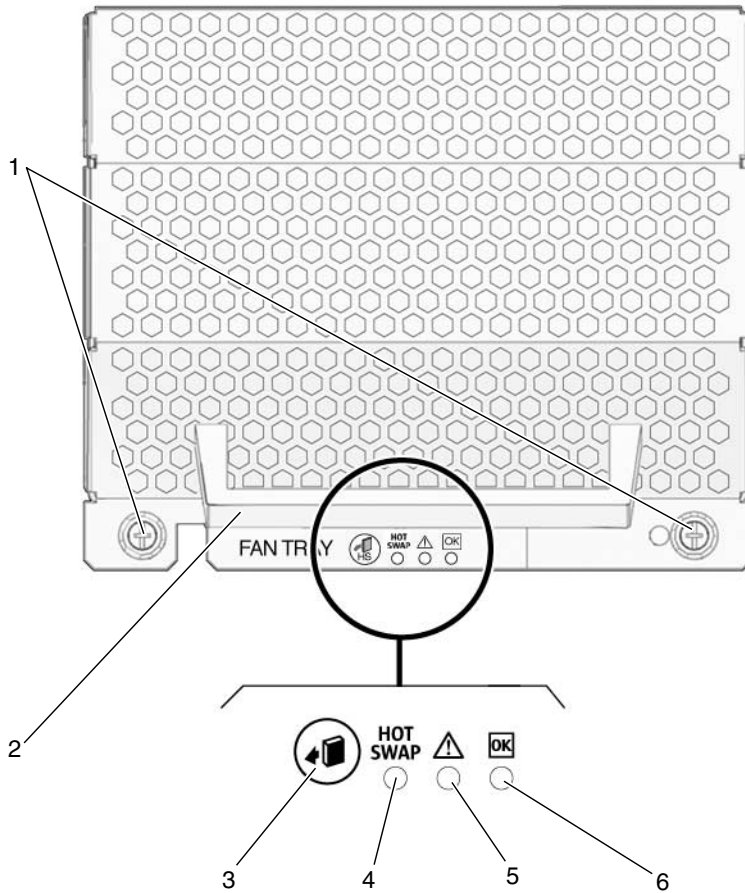

FIGURE 5-6 Removing the Fan Tray
The Netra CT 900 server has three fan trays that are accessible from the front of the shelf. Under normal operation, the green OK LED on the fan trays is lit, indicating that they are operating properly. If there is a failure in fan tray, the green OK LED goes out and the red Failure LED lights up (FIGURE 5-6).
2. Locate the Hot-Swap button at the front of the fan tray that you want to remove, and push the Hot-Swap button for several seconds (FIGURE 5-6).
TABLE 5-3 Legend for FIGURE 5-6
TABLE 5-3 Legend for **FIGURE 5-6** (Continued)
- 3. Locate the Hot-Swap LED at the front of the fan tray and wait for the Hot-Swap LED to light blue (FIGURE 5-6).**
- 4. Loosen the two thumbscrews that secure the fan tray to the front of the shelf (FIGURE 5-6).**
- 5. Use the handle at the middle of the tray to pull the fan tray out of the enclosure (FIGURE 5-6).**
6. **Tighten the two thumbscrews at the base of the fan tray to secure it to the shelf** (FIGURE 5-6).